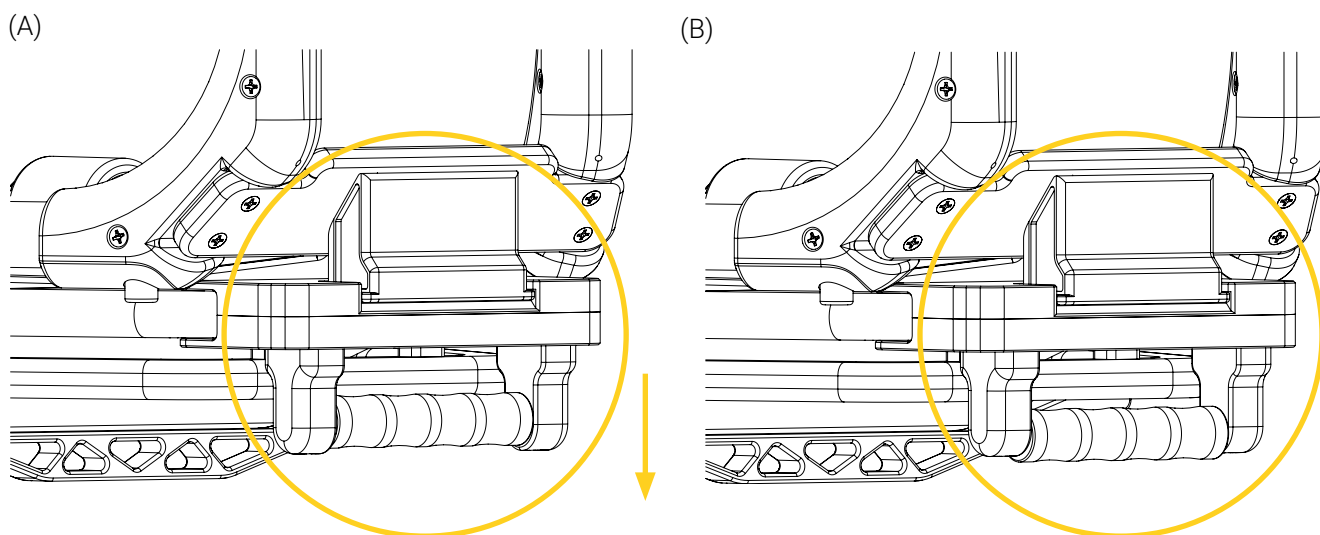

Figure 8: Deactivating the 2-part safety mechanism of the handle
3. Pull and hold the quick release handle downwards to deactivate the safety mechanism (Figure 8).